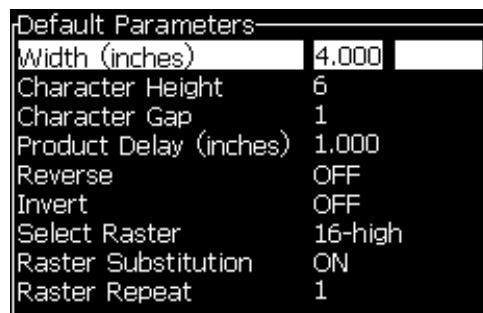

Figure 5-10: Default Parameters Dialog Box
The different parameters that are available (*Messages > Default Parameters*) are shown in Table 5-10, and Figure 5-10 on page 5-24.
- 2 Select the *Default Parameters* (Figure 5-10) to edit the values.